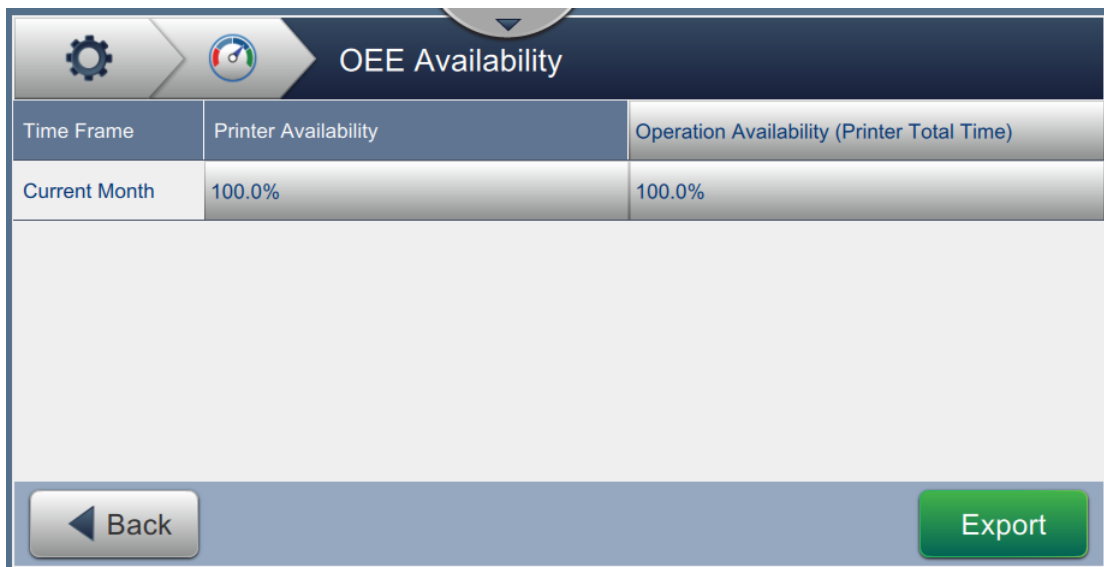

Figure 6-38: Performance - OEE Availability
2. Printer Availability and Operation Availability data is displayed with the time frame for printer total time as shown in Figure 6-38.